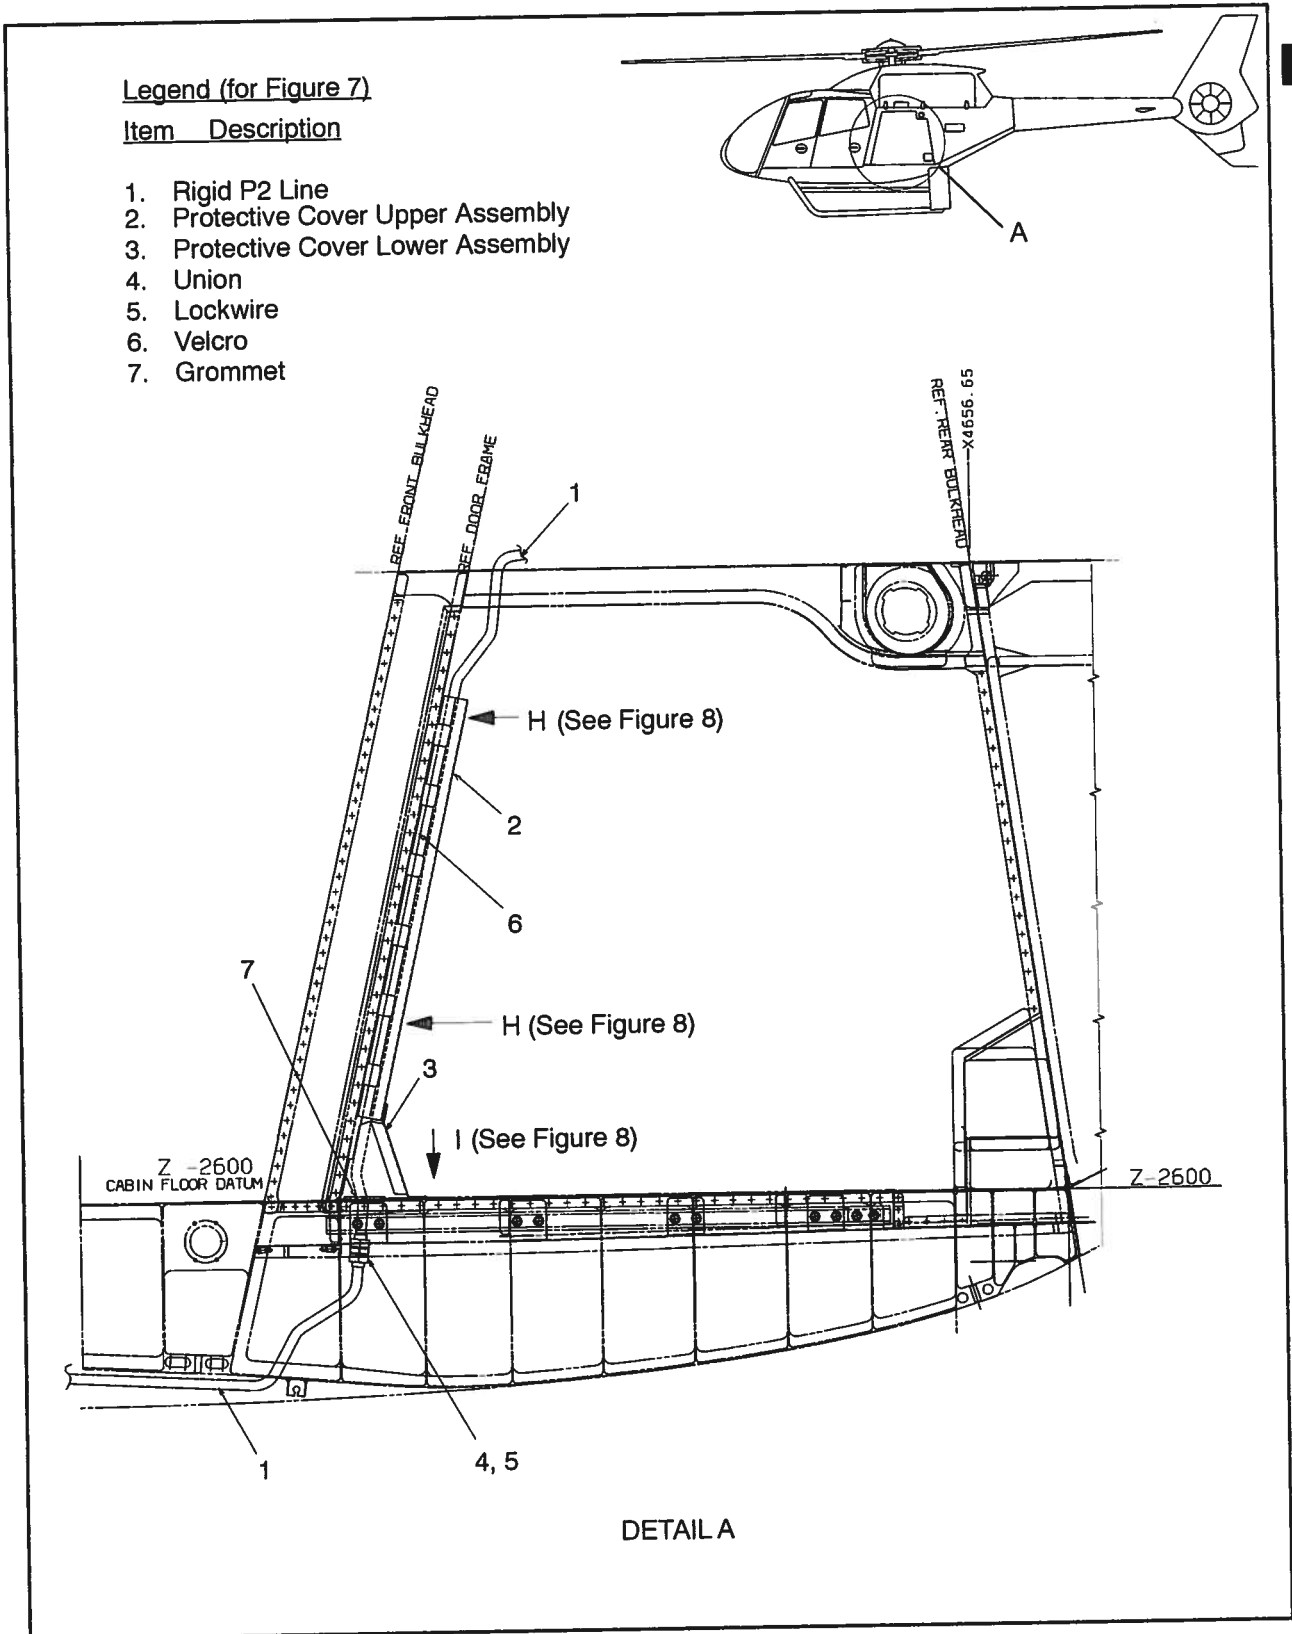
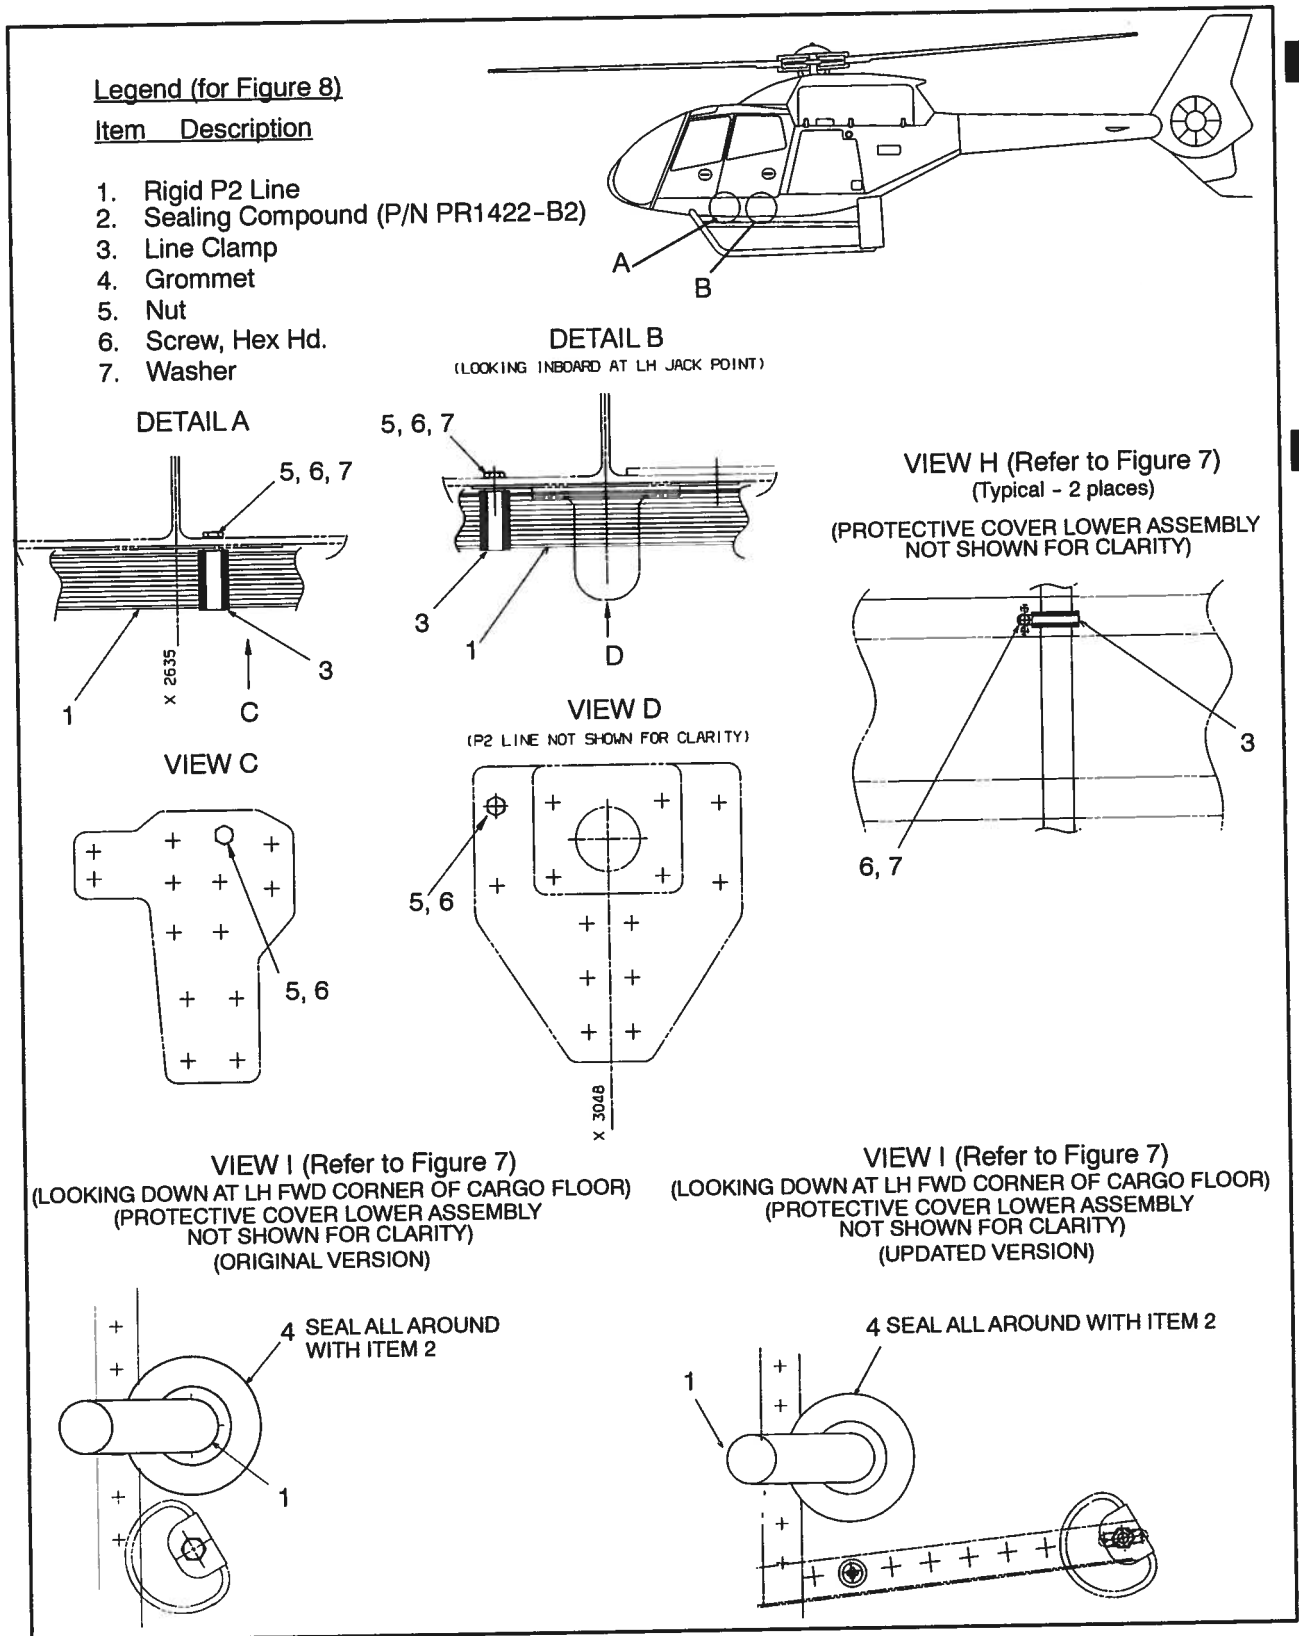

Figure 7 LH Side Cargo Compartment
Figure 8 Installation Details
- b) With LH cargo compartment door open, remove protective cover lower assembly (3), and protective cover upper assembly (2). Refer to Figure 7.
- d) Remove lockwire (5) from union (4) under cabin floor disconnecting rigid P2 line (1). Refer to Figure 7.
- e) Carefully pull rigid P2 line (1) up through grommet (7) in cargo compartment floor. Then pull line out of cargo compartment while carefully pulling it down from transmission deck.
- f) Remove screws (6), nuts (5), and washers (7) from line clamps (3) under cabin floor from STN's 2635 and 3048. Refer to DETAIL A and DETAIL B in Figure 8.
- b) Connect rigid P2 line (1) to union (4) below cabin floor and secure using lockwire (5). Refer to Figure 7.
- d) Secure rigid P2 line (1) to cargo compartment wall using line clamp (3), washer (7) and screw (6). Refer to Figure 8.
- e) Secure rigid P2 line under cabin floor from STN's 2635 and 3048 using screws (6), nuts (5), and washers (7) from line clamps (3) Refer to DETAIL A and DETAIL B in Figure 8.
- f) Attach protective cover upper assembly (2) and protective cover lower assembly (3) to cargo compartment wall. Refer to Figure 7.
- a) Align switch (15) on contact bracket (7) ensuring that center of actuator arm is to the centerline of contact sleeve (6) and secure using screw (18), washer (19), and nut (17). Refer to Note 1 on Figure 8.